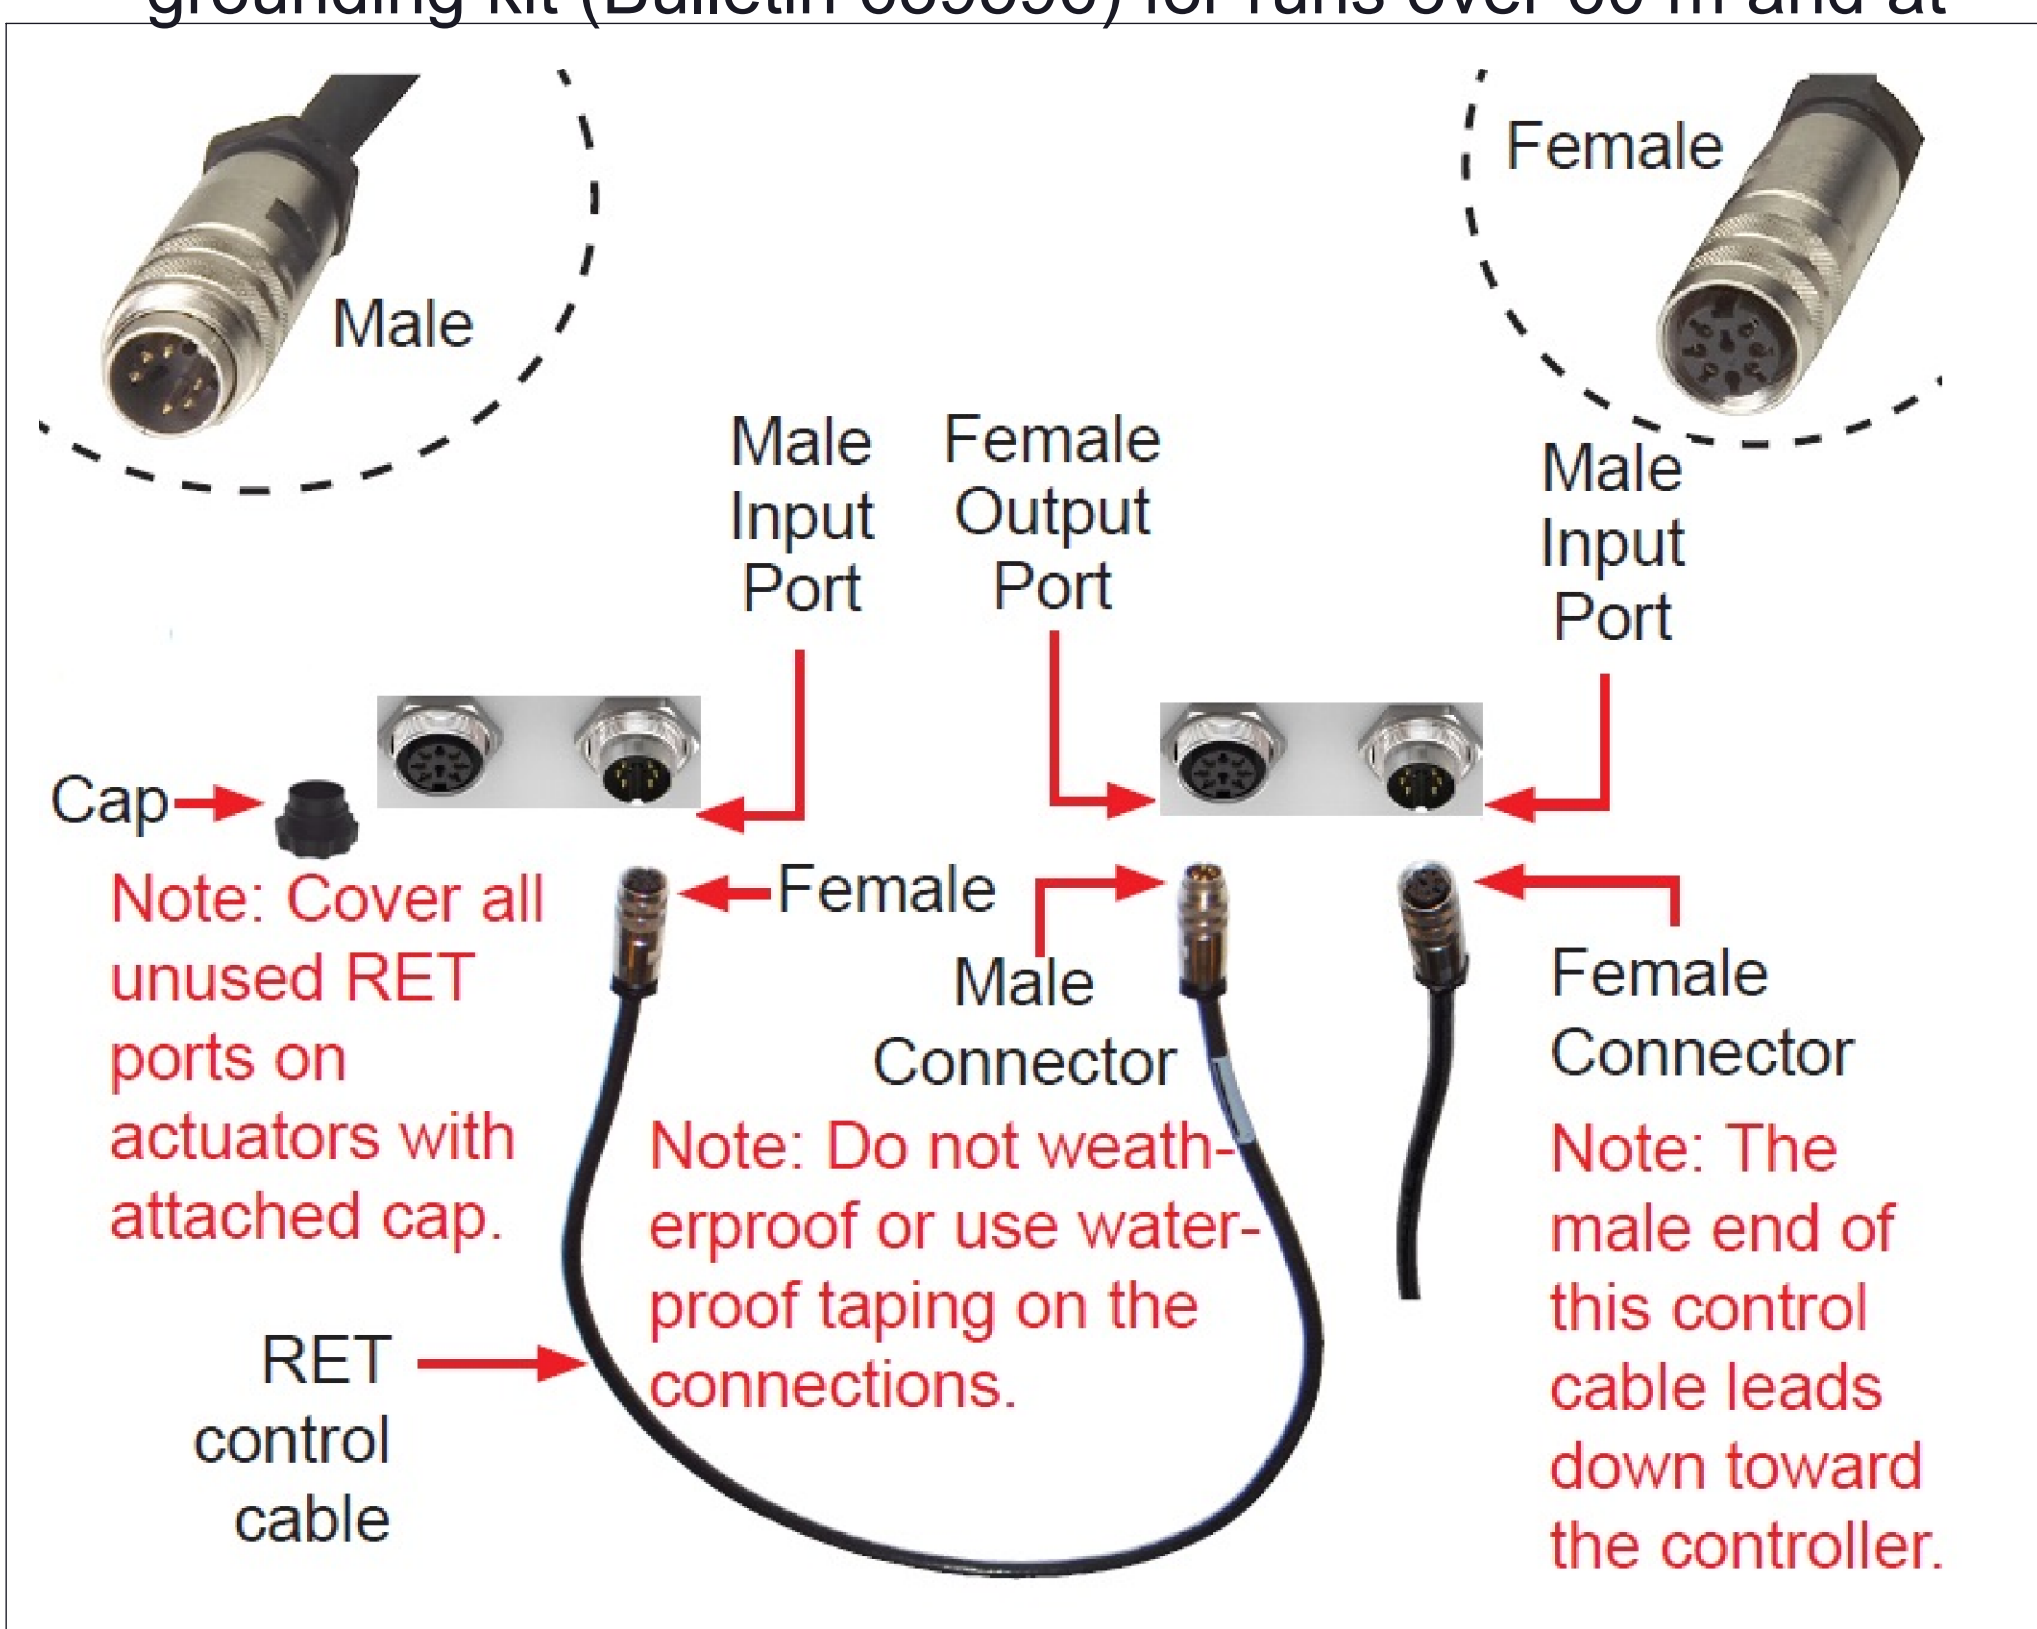

Figure 1. Attaching Control Cables to ANDREW Actuators.
2. The control cable connector at the base station end of a home run cable should always be male. See Figures 1 and 2.